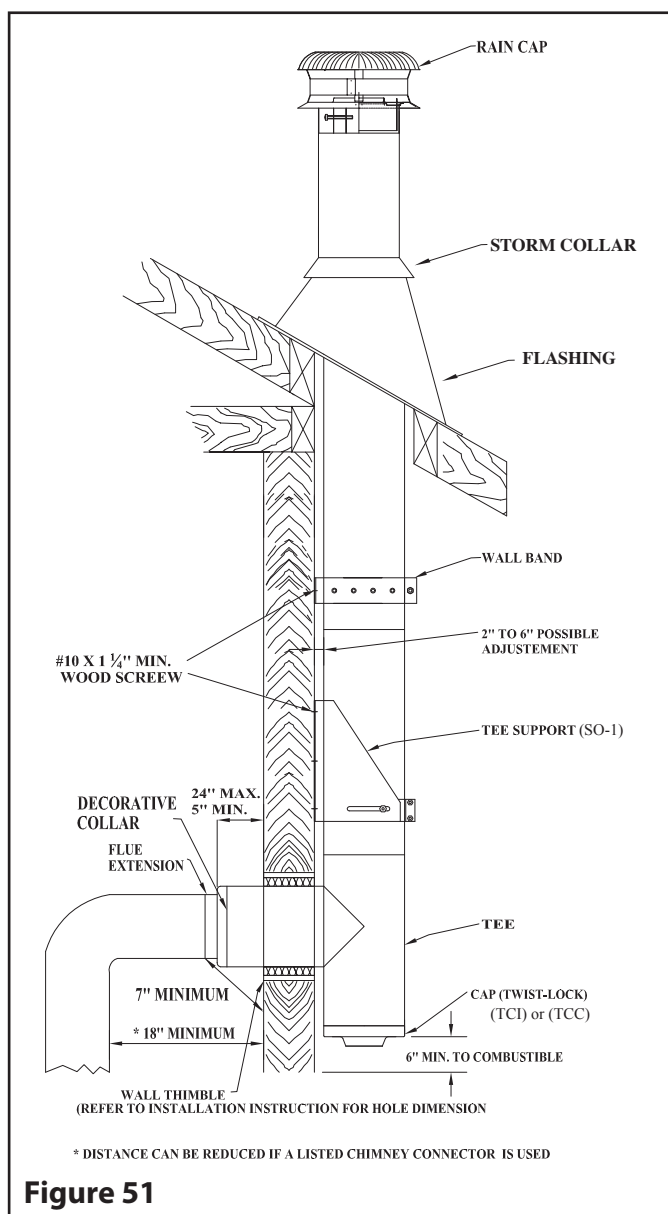

Figure 51
- NOTE:** If enclosed at 3" or more clearance all around the chimney on a wood stove application, no Premium shields are required (see Figure 51).